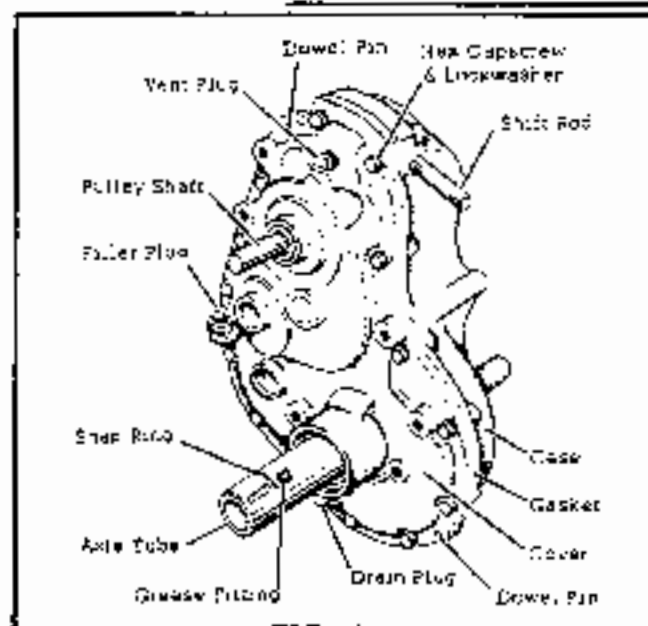

FIG. 1
2. Remove the 14 hex head capcrews and lockwashers from around the edge of the transmission cover. Drive the 2 dowel pins down into the transmission case holes and insert a screw driver at several points between the cover and the case and pry upwards to break the cover loose from the case. See Fig. 1. When cover is free, lift off.